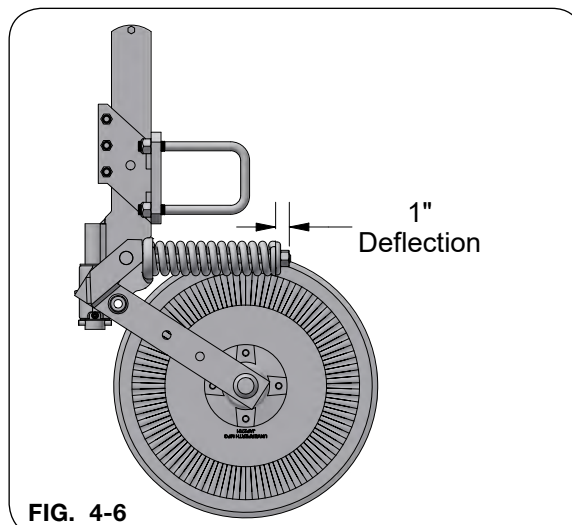

FIG. 4-6
4. Tighten bolt until a deflection of 1" is obtained on spring (FIG. 4-6).